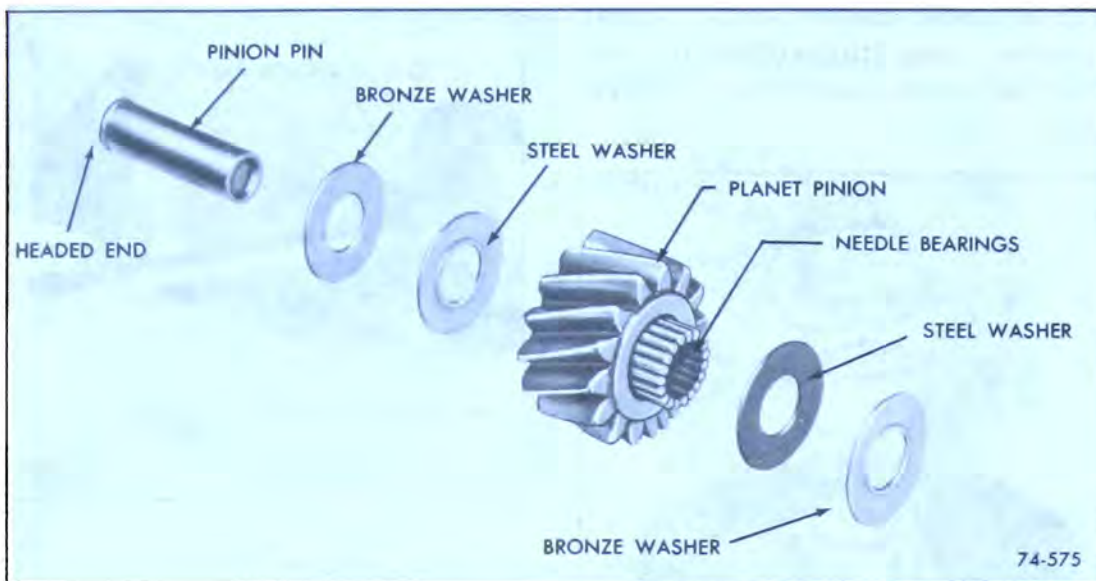

Figure 74-575
6. Install eighteen (18) needle bearings into each pinion, using petroleum jelly to hold the bearings in place. Use a pinion pin as a guide. See Figure 74-575.